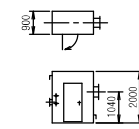

Fig. 1---POSITIONS OF DOORS, TERMINAL BOX AND FLANGE
- OUTDOOR USE AND TO BE WELD-INSTALLED ON ESP ROOF GIRDER FOR THE POSITION OF DOOR AND FLANGE. REFER TO FIG. 1.